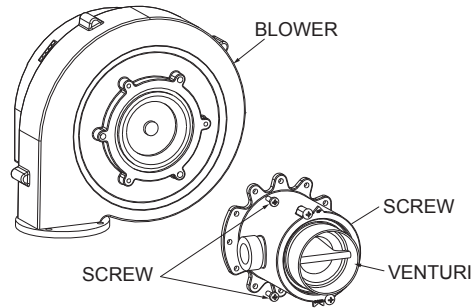

Figure 49. Propane Venturi
4. Replace the Natural Gas Venturi with the Propane Venturi. See Figure 49.